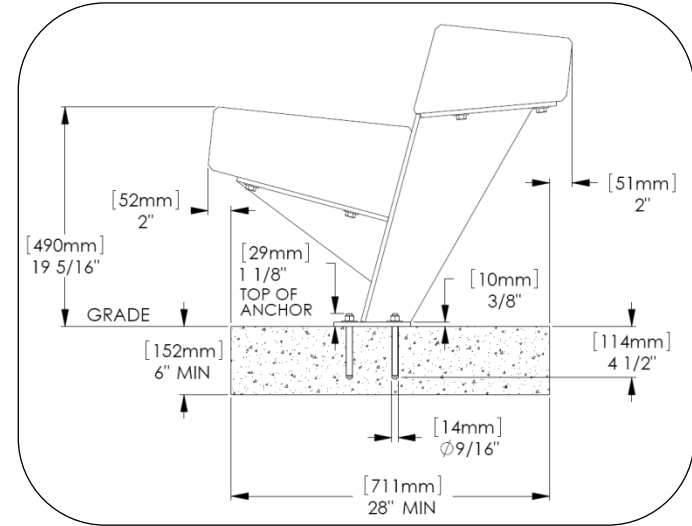

Fig. 1 – Surface mount at grade
3. Set drill template over marked locations. Weight the template and drill the holes according to Fig. 1 or 2, depending on install method. Prepare holes according to anchoring adhesive manufacturer's recommendations.